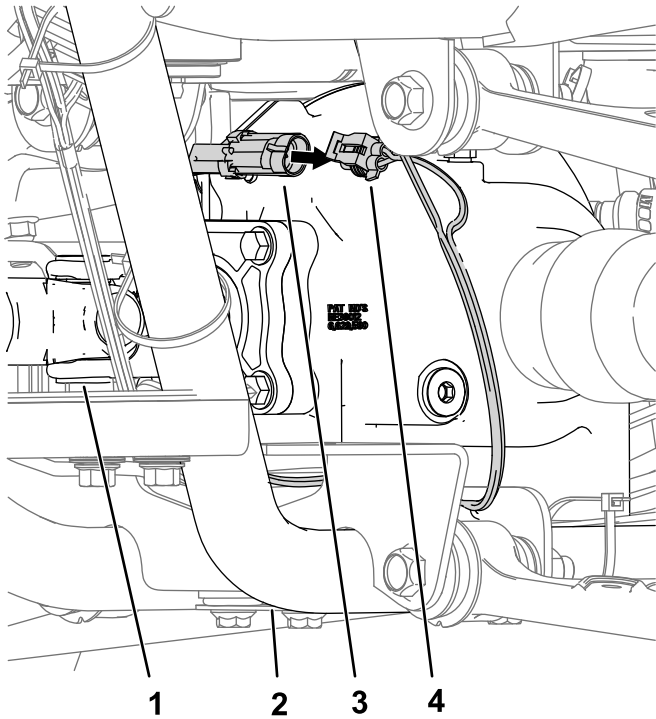

Figure 12
- Remove the socket from the connector on the front differential assembly (Figure 12).